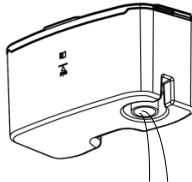

Figure 4-6
(1) Remove the water chamber according to the instructions in 4.2(1).
(2) **Empty the water chamber:** First pour most of the water out of the water chamber through the water inlet (See Figure 4-6).